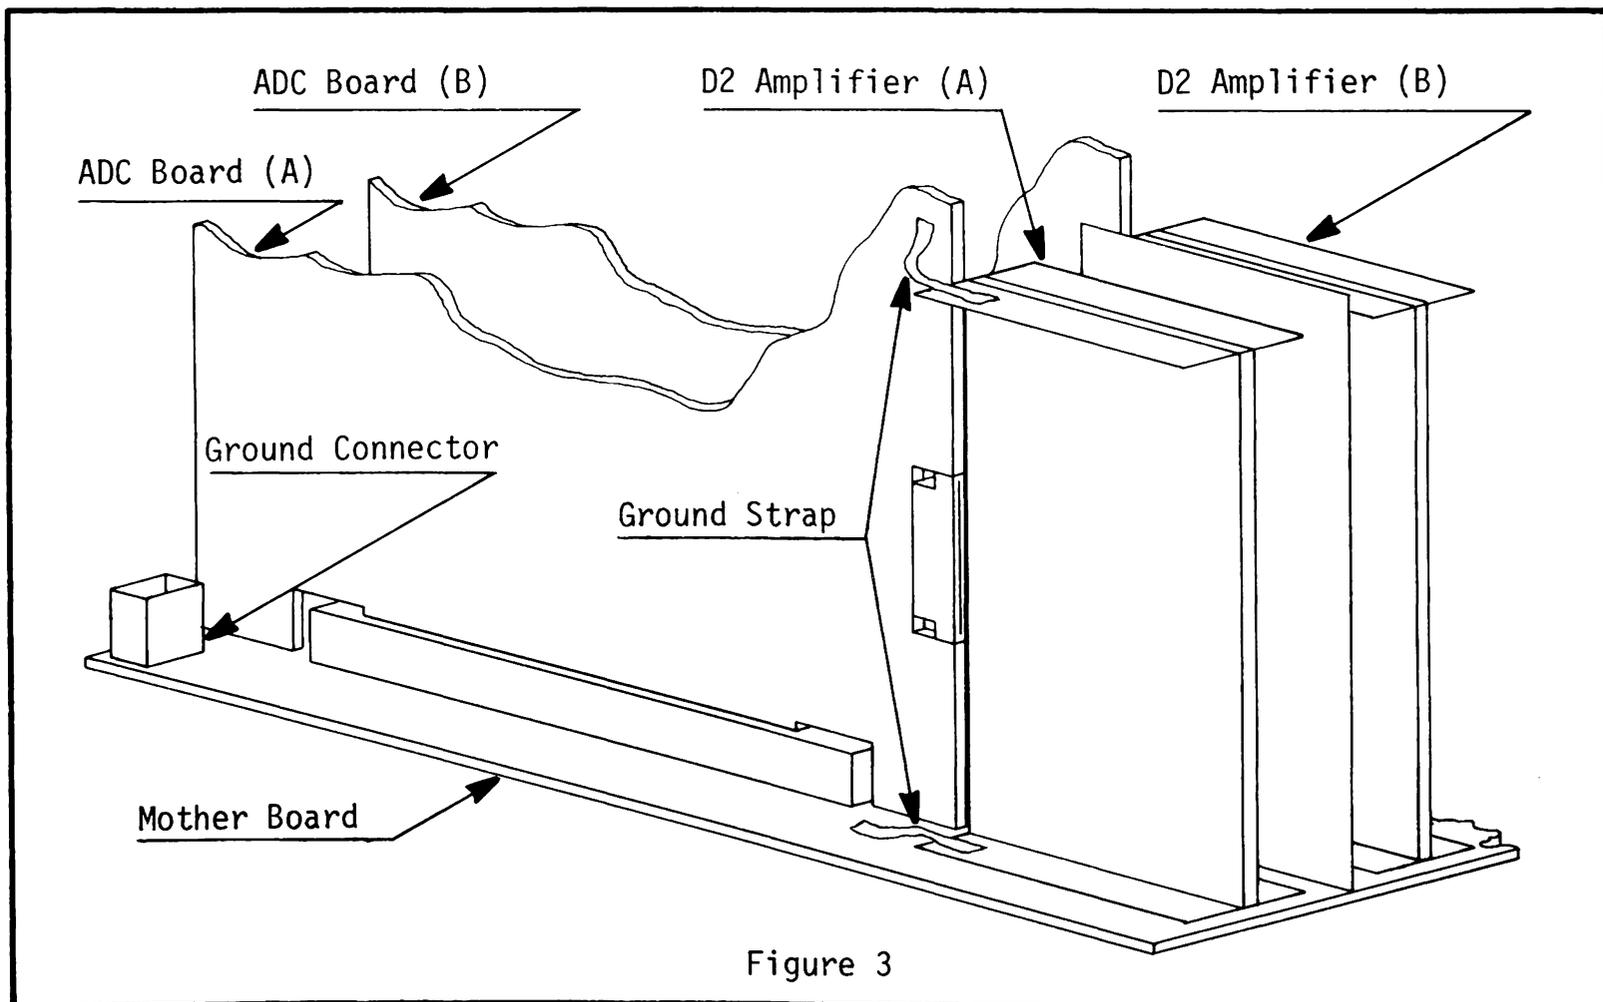

Figure 3
2. Unsolder the two ground straps from the D2 Amplifier shields. (See Figure 3)
1. Unplug the Ground Connector. See Figure 3.